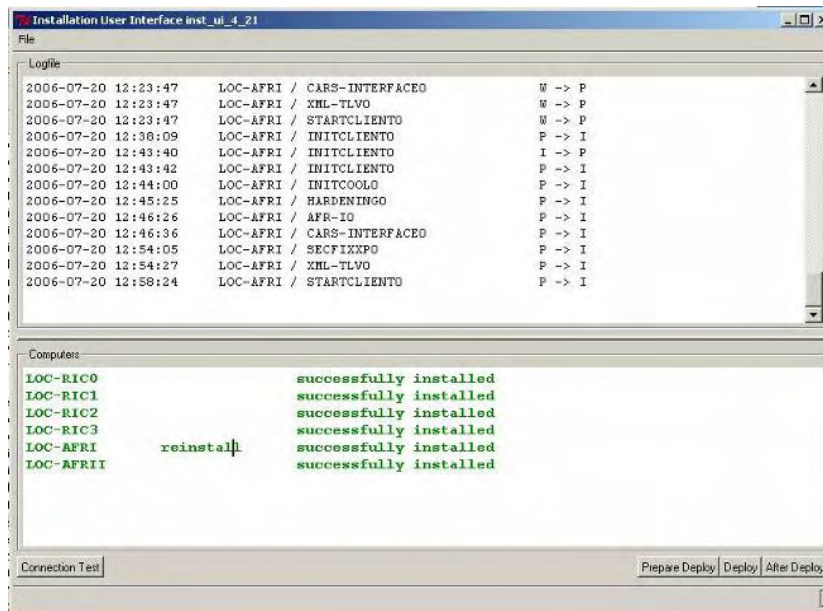

Figure 1-265. Successful Installed
36. Click on **Deploy** at the bottom of the right side. The status of the system with the changed configuration will change to “install in process”. When finished, status will change to “successfully installed” (Figure 1-265).